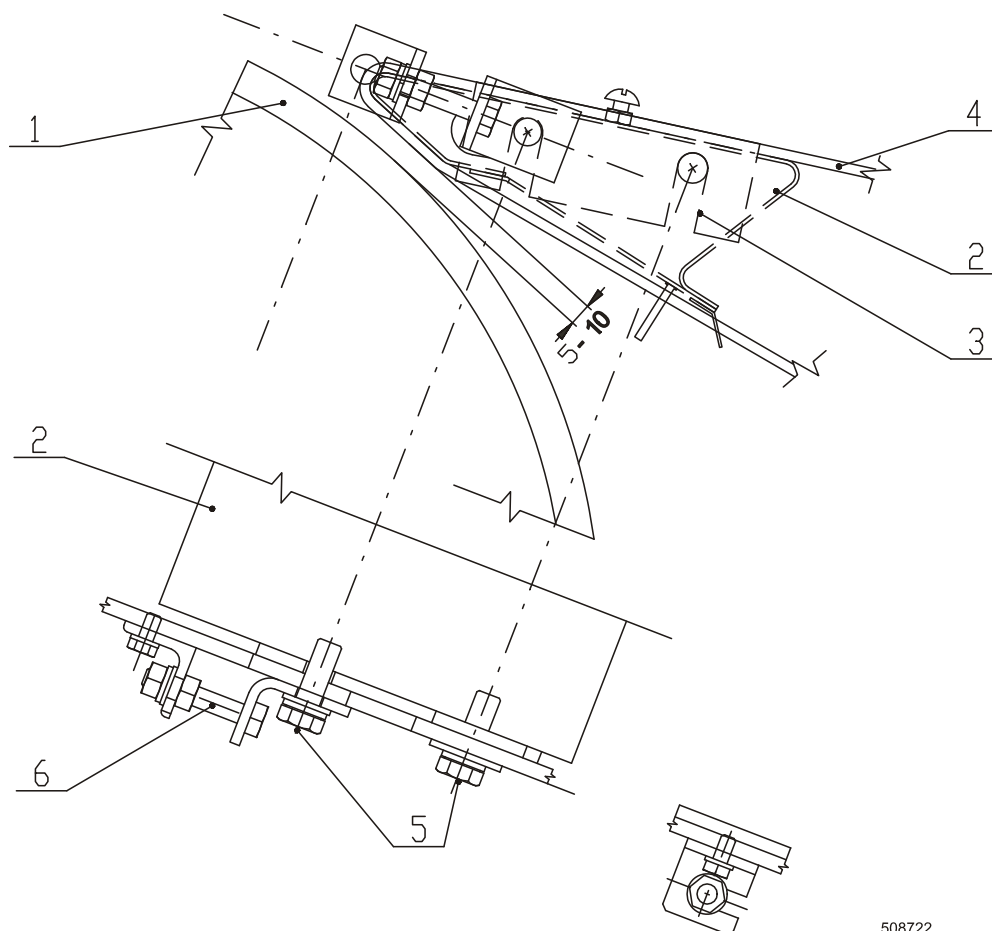

Fig. 5.2.2.C Tightening the feeding table
2. Unscrew the tightening bolt (6)
3. Loosen the belts tension by moving the table (2)
6. Tighten the belts, after adjustment fix the table with bolts (5)
7. Install the finger guard. Gap between the finger guard can be max. 10 mm, fig. 5.2.2.B.